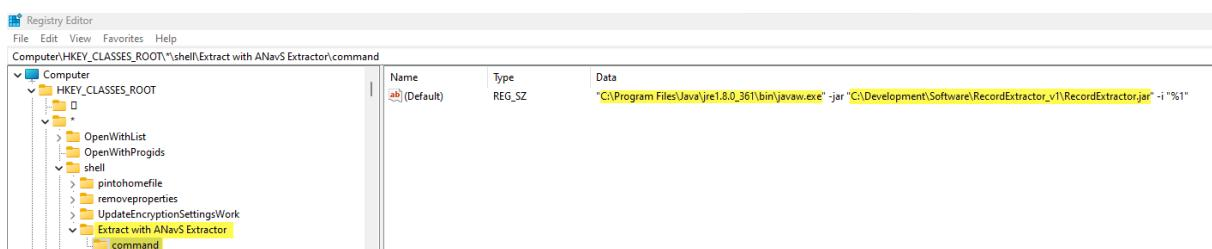

Figure 59: Registry with the new key for the Windows 11 right-click menu of the ANavS® Record Extractor Tool.
6. The successfully created key is shown in Figure 59.